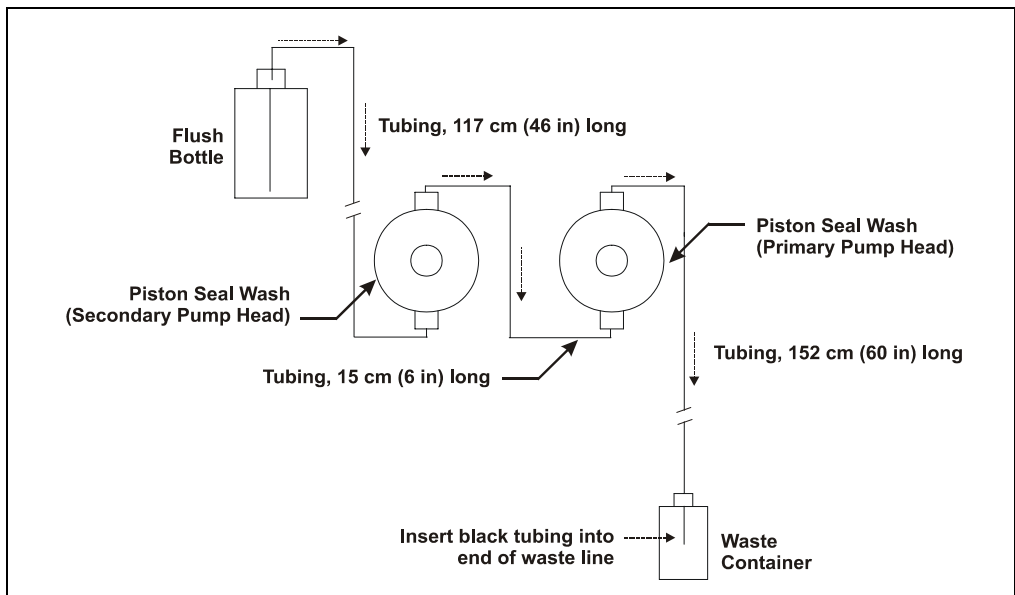

Figure B-3. Piston Seal Wash Flow Schematic
4. Install the tubing as follows (see Figure B-3):